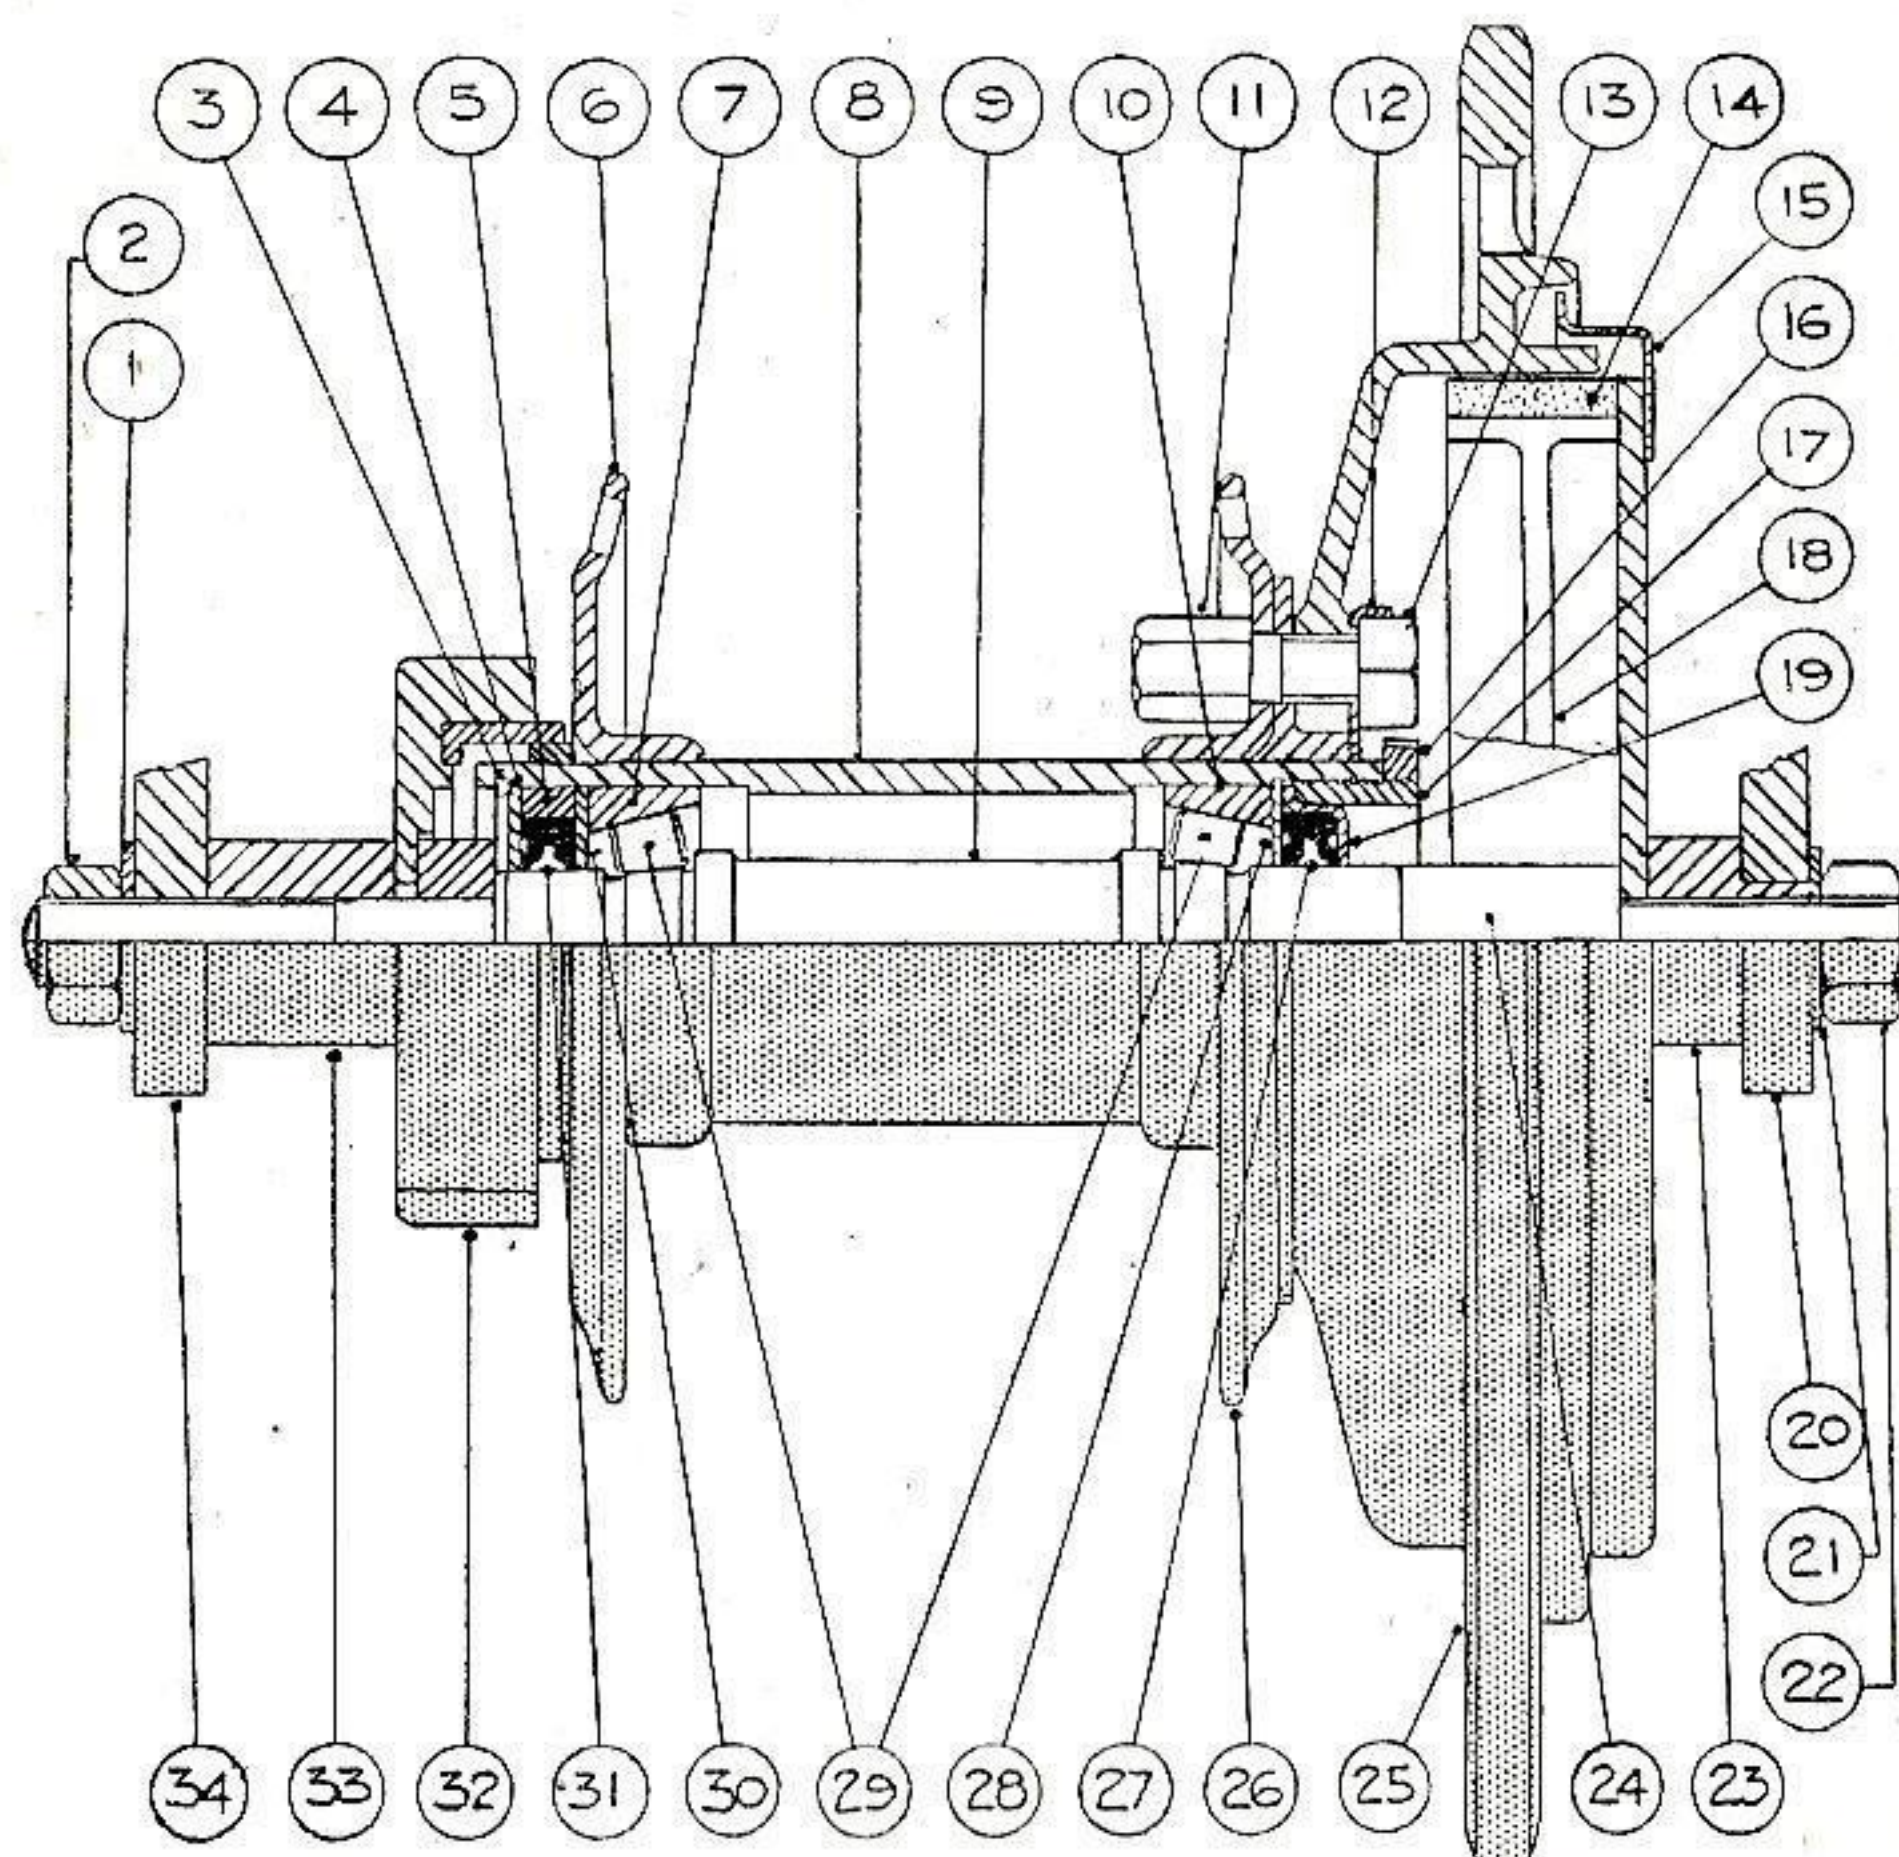
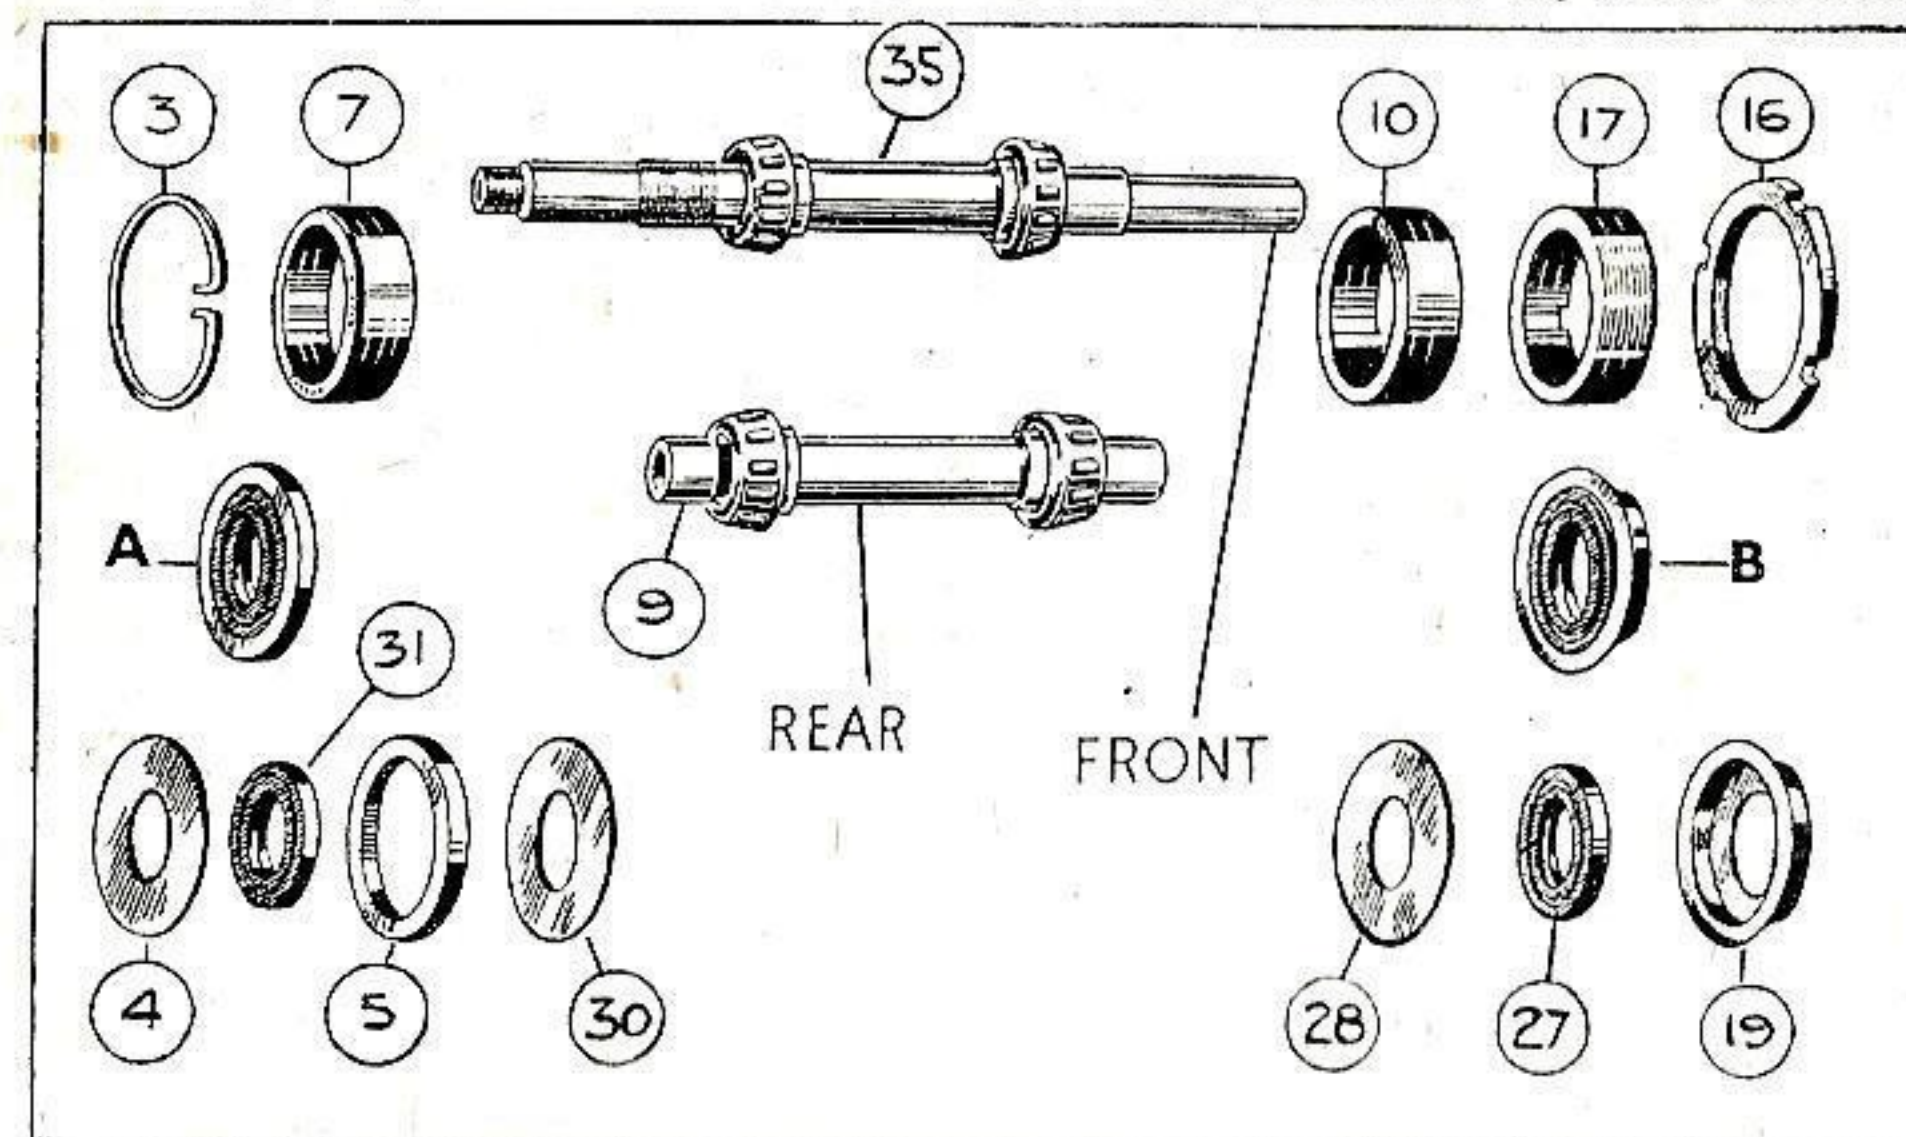

FIG. 73. SECTIONAL VIEW OF REAR HUB ASSEMBLY
FIG. 74. EXPLODED VIEW OF WHEEL-BEARING COMPONENTS
Now slacken the nuts on both sides of the rear wheel solid spindle (see Fig. 73), passing through the hollow spindle, and carefully remove the rear wheel assembly from the fork ends. To enable the assembly to clear the brake cover plate anchor bolt, tilt the wheel slightly, and then withdraw to the rear.
Replacing Rear Wheel. Replace the rear wheel assembly, using the reverse order and procedure employed for removal. Note that it is important, prior to finally tightening the nuts on the ends of the wheel spindle, to position the speedometer gearbox (shown at (32) in Fig. 73) correctly. Positioning must be such as to permit of the gearbox driving cable being properly fitted.
The front hub assembly is in all essentials similar, except that instead of having a hollow spindle through which a solid spindle (with two nuts) passes, a single solid spindle (with one nut on the left-hand side) is employed. (See also Fig. 74.)
The bearings provided for the front and rear wheels are of the taper roller type, and, as may be seen in Fig. 74, the inner bearing members are integral with the front wheel solid spindle (35) and the rear wheel hollow spindle (9). The hub shells contain the outer cups (7) and (10) for the rollers, these cups being pressed into the shells. Two oil seals (27) and (31) are provided for each hub assembly, one on the outside of each roller bearing outer cup.
As regards bearing adjustment (see Figs. 73 and 74), one of the
This sketch (see also Fig. 73) applies to front and rear wheel bearings, the wheel spindles being the only different parts. The solid inner spindle for the rear hub is not shown. The bearing adjusting ring (17) is fitted on the threaded side of the hub. At A and B are shown the felt oil seals, pressed into the spacing collar (5) and the dished cup (19) respectively. The assemblies (A) and (B) are fitted on the outside and movable bearing outer cups (7) and (10) respectively.
KEYS TO FIGS. 73 AND 74
Referring to Figs. 73 and 74, to adjust the roller bearings of a front or rear wheel, loosen the locking ring (16) for the bearing adjusting ring (17). Next tighten the bearing adjusting ring until *all* play has been eliminated. Then slacken off the adjusting ring exactly *one-half turn*. This should give about .002 in. end play. Finally retighten the locking ring (16), taking care to see that the adjusting ring does not move in the process.
Now, referring to Figs. 73 and 74, loosen the locking ring (16) for the bearing adjusting ring (17) and completely unscrew the adjusting ring. Remove the adjusting ring together with the locking ring. Then remove in this order: the dished cup (19); the oil seal (27); and the oil seal retaining ring (28). These three members comprise the oil seal assembly shown at (B) in Fig. 74, plus the retaining ring.
Referring to Figs. 73 and 74, press the roller bearing outer cup (7) into the *unthreaded* end of the hub shell. The cups (7) and (10) are interchangeable and are tapered axially. On assembly the *thinner* edge of the cup must always face *inwards*. When
Referring to Fig. 73, the rear wheel brake drum and sprocket (25) is secured to the hub of the rear wheel by six bolts (11) and nuts (13). Each nut has a locking washer (12) beneath it, and